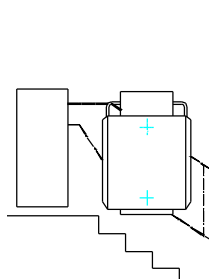

Fig. 4
6. With the user evacuated push down hard on the barriers. **As the barriers fold down the platform will fold up (see fig. 4). The platform must now be locked with the padlock on the carriage.**